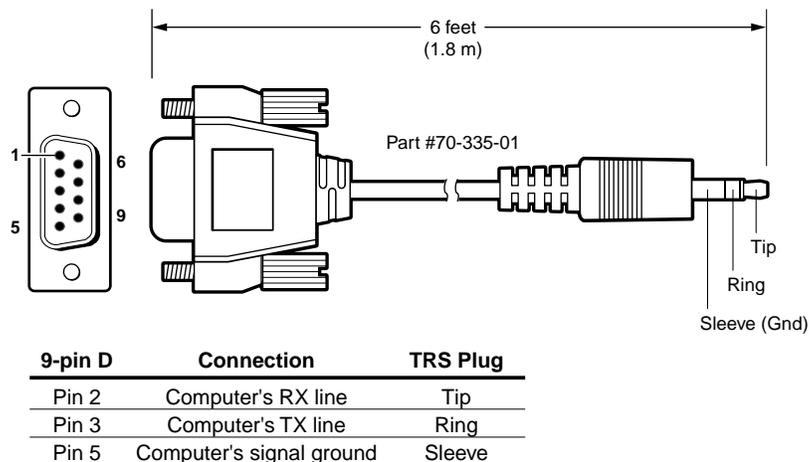

Figure 2-16 — Optional 9-pin TRS RS-232 cable
- ⑭ **Configuration port** — This 2.5 mm mini stereo jack serves the same serial communications function as the rear panel Remote port, but it is easier to access than the rear port after the matrix switcher has been installed and cabled. The optional 9-pin D to 2.5 mm mini jack TRS RS-232 cable, part #70-335-01 (figure 2-16), can be used for this connection.